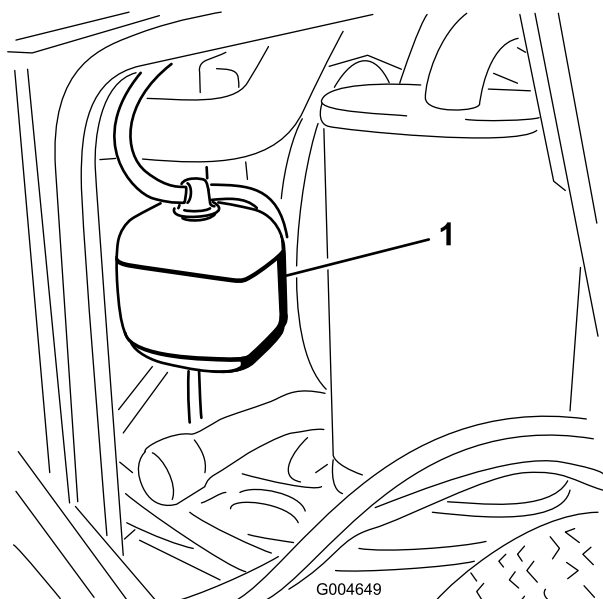

Figure 50
1. Check the level of the coolant in the expansion tank (Figure 50). The coolant level should be between the marks on the side of the tank.